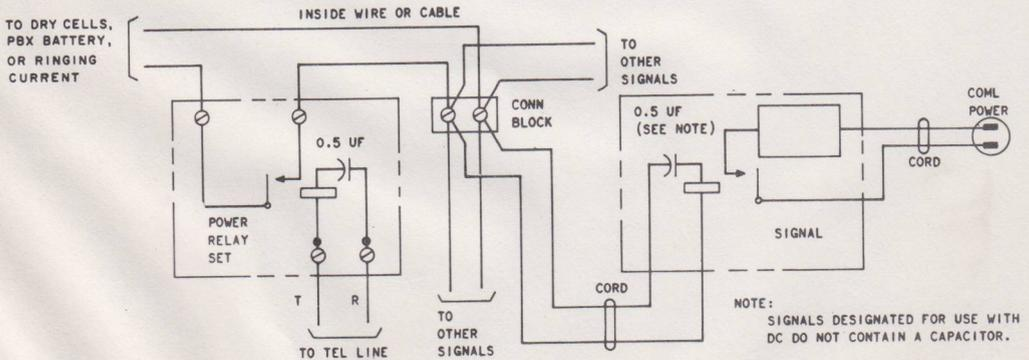

Fig. 21—Multiple Signal
6.02 Several signals may be connected as shown in Fig. 21. This has the advantage of only one ringing bridge on the telephone line for several auxiliary signals. The total number of auxiliary signals connected to a power relay set should not exceed the current carrying capacity of the relay contacts. Special commercial power wiring is not needed between relay set and signals.